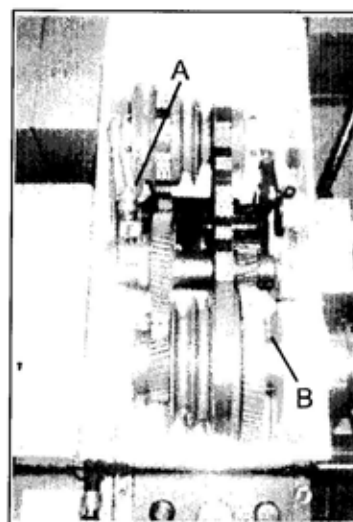

Fig. 16
20. **High Low Speed Selector (A, Fig. 16)** – located on the left side of the headstock inside the end gear cover. Push toward the rear of the machine for the high-speed range and pull toward the front for the low speed change.
21. **Lock Pin for the Back Gear (B, Fig. 16)** – located inside the headstock cover. Pull the pin out and turn 90 clockwise to engage the back gear. Pull the pin out, turn 90 counter-clockwise, and rotate the chuck until the pin seats to disengage the back gear.